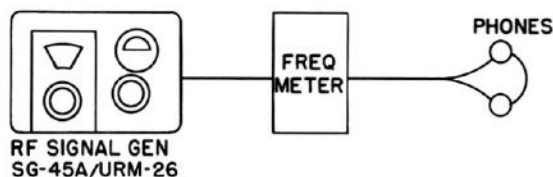

Figure 7-8. RF Signal Generator SG-45A/URM-26, Connections for Checking Frequency Calibration
(1) Connect output connector J-106 to a heterodyne frequency meter that covers the required frequency range, such as Frequency Meter TS-186/UP (see figure 7-8).
(2) Start at 180 megacycles and check for zero beat every 10 megacycles to 400 megacycles, noting, at each beat, the relative position of the index line and calibration mark.